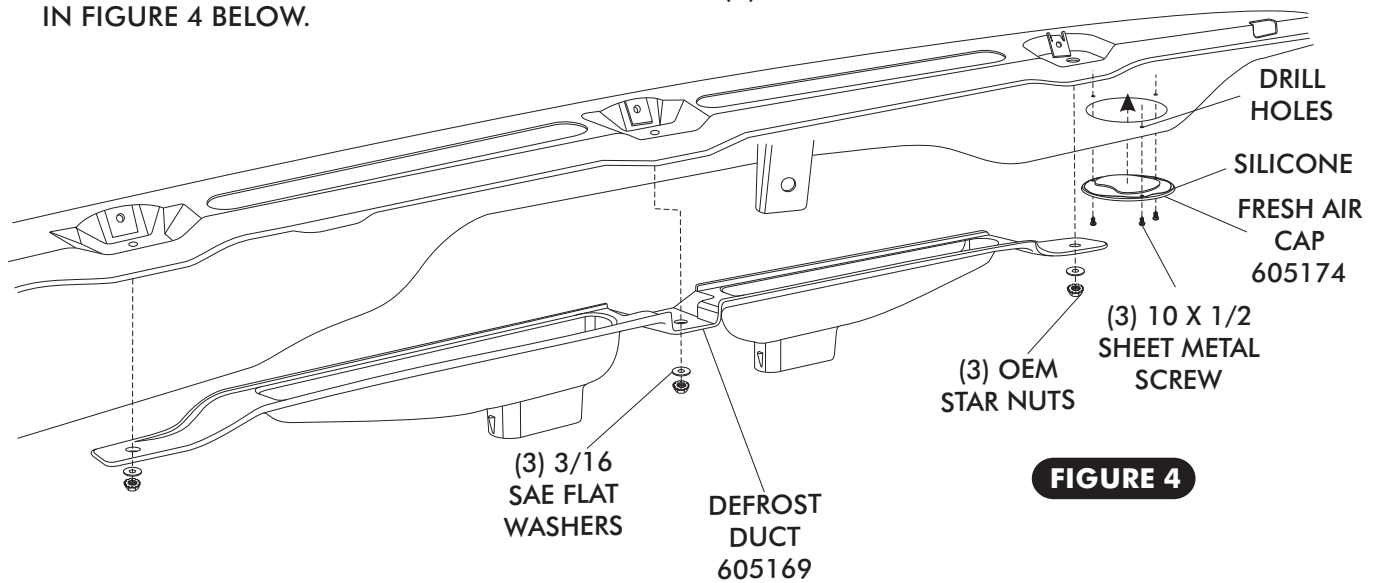

FIGURE 4
- INSTALL DEFROST DUCT UNDER DASH AS SHOWN IN FIGURE 4 BELOW. SECURE USING OEM NUTS w/ (3) 3/16 SAE FLAT WASHERS.
- HOLD FRESH AIR CAP UNDER DASH AND MARK THE (3) MOUNTING HOLES.
- DRILL (3) 1/8" MOUNTING HOLES UNDER DASH.
- APPLY A 1/4" BEAD OF SILICONE AROUND THE BACK SIDE OF THE FRESH AIR CAP AS SHOWN IN FIGURE 4, BELOW.
- SECURE FRESH AIR CAP TO FRESH AIR HOLE USING (3) #10 X 1/2 SHEET METAL SCREWS AS SHOWN IN FIGURE 4 BELOW.